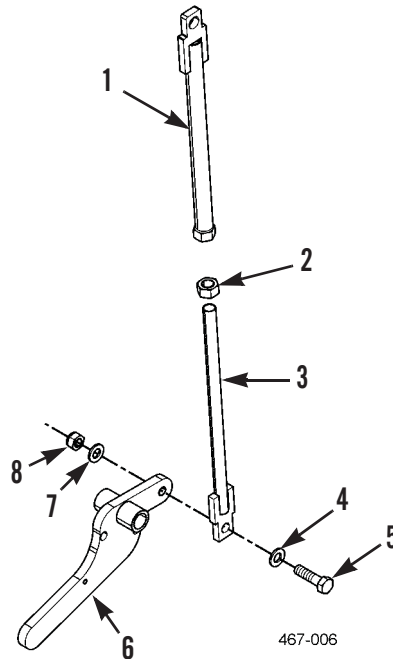

Figure 3. Latch Handle.
- Remove locknut (Figure 3, Item 8), washer (Figure 3, Item 7), washer (Figure 3, Item 4), bolt (Figure 3, Item 5), and latch handle (Figure 3, Item 6) from adjustment bar (Figure 3, Item 3). Discard locknut.
- Loosen nut (Figure 3, Item 2) and remove adjustment bar (Figure 3, Item 3) from latch rod (Figure 3, Item 1).
1. Install latch rod (Figure 3, Item 1) and nut (Figure 3, Item 2) on adjustment bar (Figure 3, Item 3) keeping rod ends parallel.
2. Install latch handle (Figure 3, Item 6), bolt (Figure 3, Item 5), washer (Figure 3, Item 4), washer (Figure 3, Item 7), and new locknut (Figure 3, Item 8) on adjustment bar (Figure 3, Item 3).